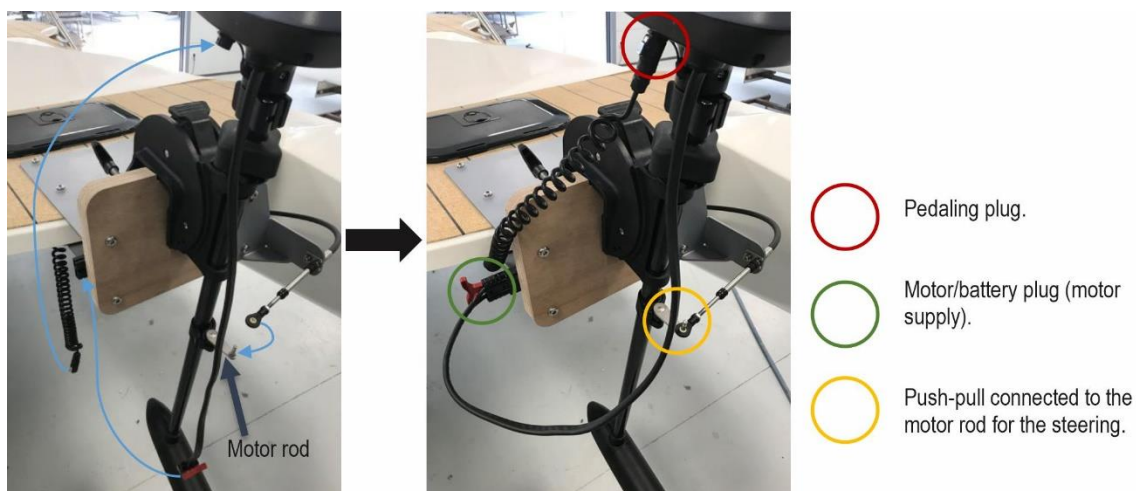

Figure 10: Motor connections.
- Connect the pedaling plug to the motor (spring wire) (Figure 10).